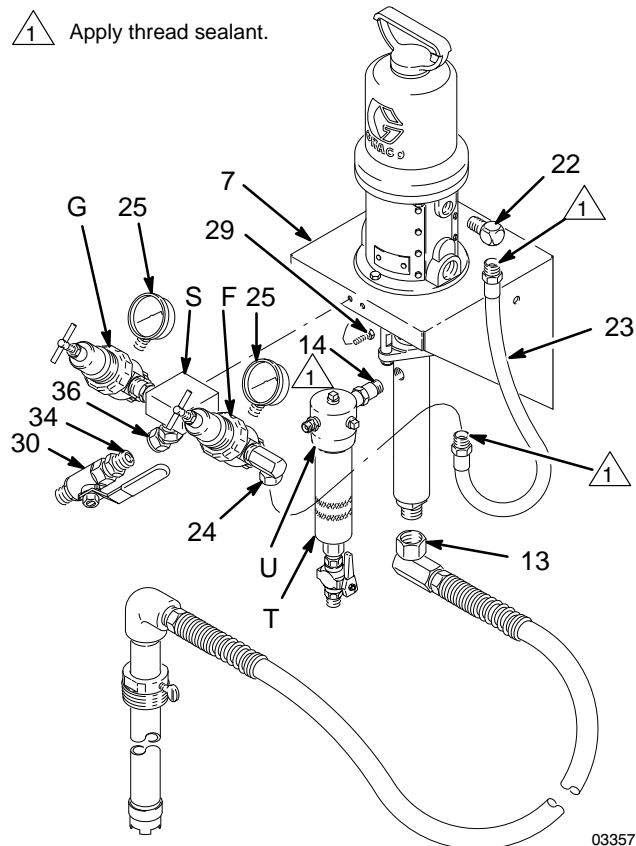

Fig. 2 03357
1. Screw the gauges (25) into the air regulators (F, G). See Fig. 2.
2. Connect the nipple (34) and bleed valve (30) to the swivel (36).
3. Install the air manifold assembly (S) to the wall bracket (7) using the two screws (29).
4. Screw the elbow (22) into the pump air inlet, so the female threads face down. Apply sealant to both ends of the hose (23). Connect one end to the elbow (22), then connect the other end to the swivel (24) at the pump air regulator (F).
5. Unscrew the filter bowl (T) from the top cap (U). Apply sealant to the threads of the nipple (14) and install the nipple and top cap in the pump outlet. Lubricate the threads of the filter bowl (T) and screw it into the top cap (U) tightly.
7. Screw the suction kit swivel (13) onto the pump intake.